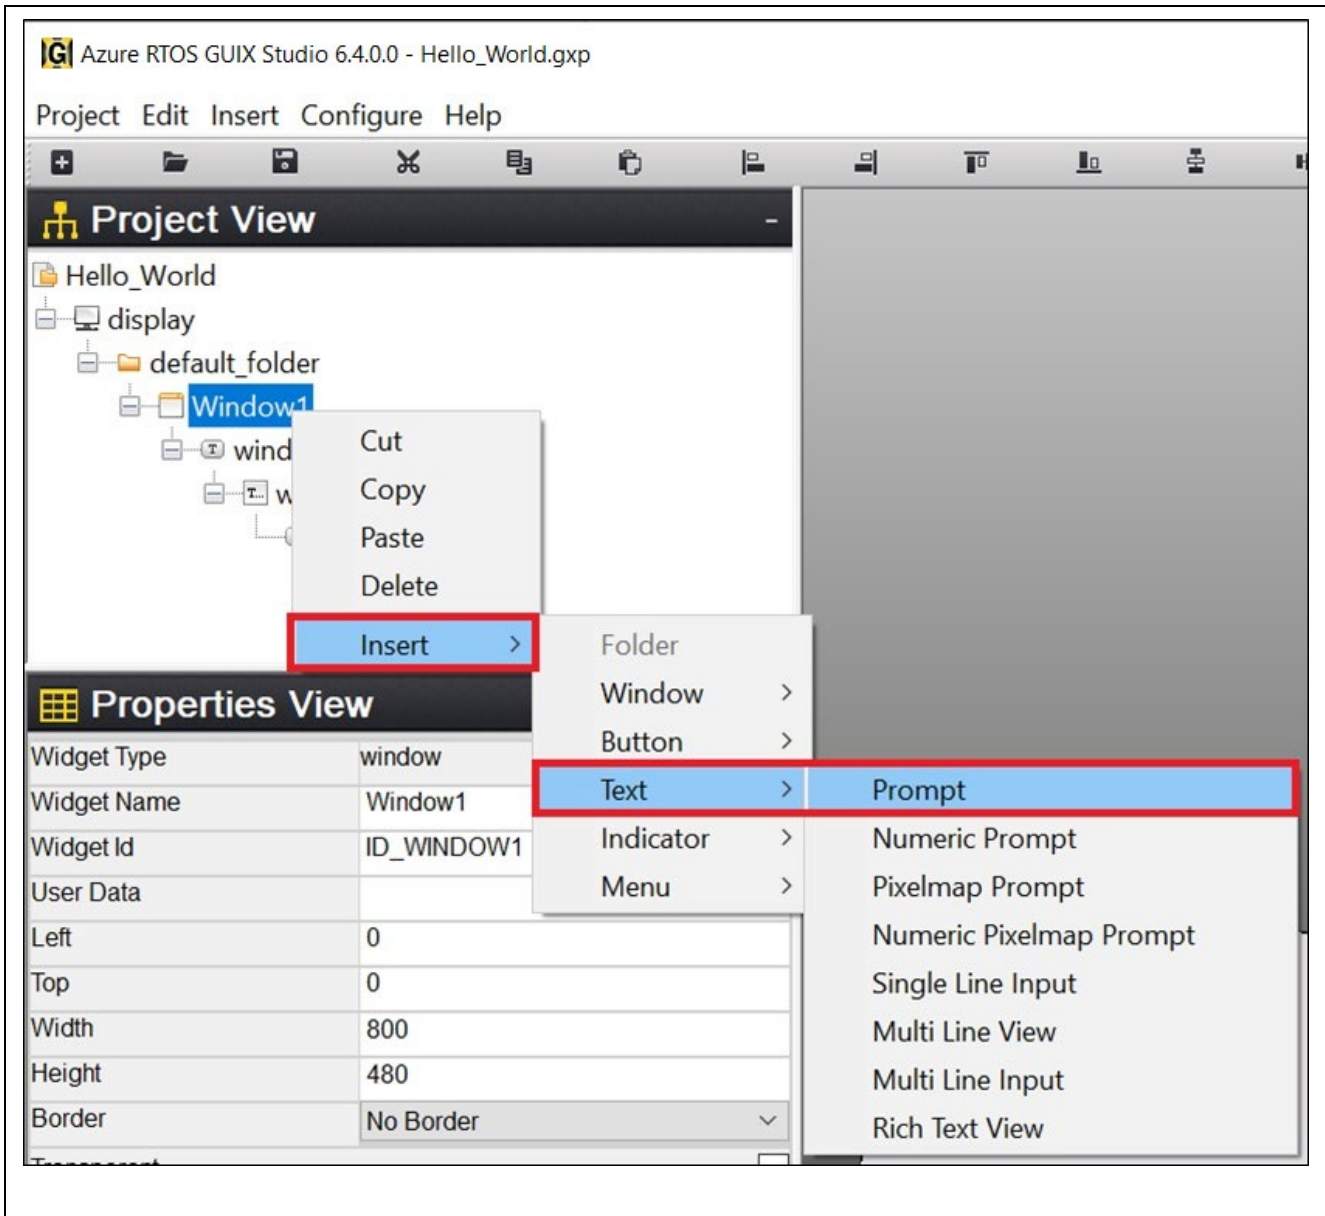

Figure 54. Insert Prompts
17. Insert **Prompt**. Right click on **Window1** and follow **figure 54**.